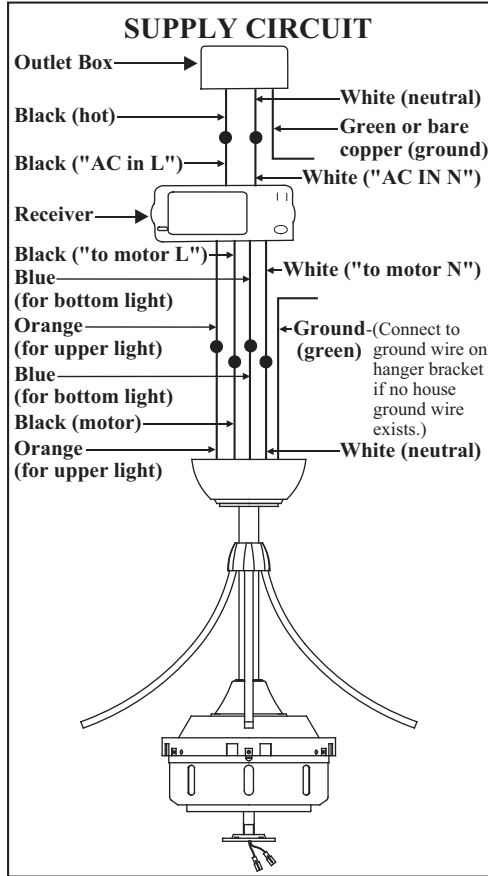

Figure 11
2. (Figure 11) Motor to receiver electrical connections: Connect the black wire from the fan to black wire marked "TO MOTOR L". Connect the white wire from the fan to the white wire marked "TO MOTOR N" from the receiver. Connect the blue wire from the fan to the blue wire marked "For bottom Light" from the receiver. Connect the orange wire from fan to the orange wire from receiver marked "For Upper Light". Secure wire connections with the plastic wire nuts provided.
3. (Figure 11) Receiver to House Supply Wires Electrical Connections: Connect the black (hot) wire from the ceiling to the black wire marked "AC in L" from the receiver. Connect the white (neutral) wire from the ceiling to the white wire marked "AC in N" from the Receiver. Secure the wire connections with the plastic wire nuts provided.
4. (Figure 11) If your outlet box has a ground wire (green or bare copper) connect it to the fan ground wires; otherwise connect the hanging bracket ground wire to the mounting bracket. Secure the wire connection with a plastic nut provided. After connecting the wires spread them apart so that the green and white wires are on one side of the outlet box and black and blue wires are on the other side. Carefully tuck the wire connections up into the outlet box.